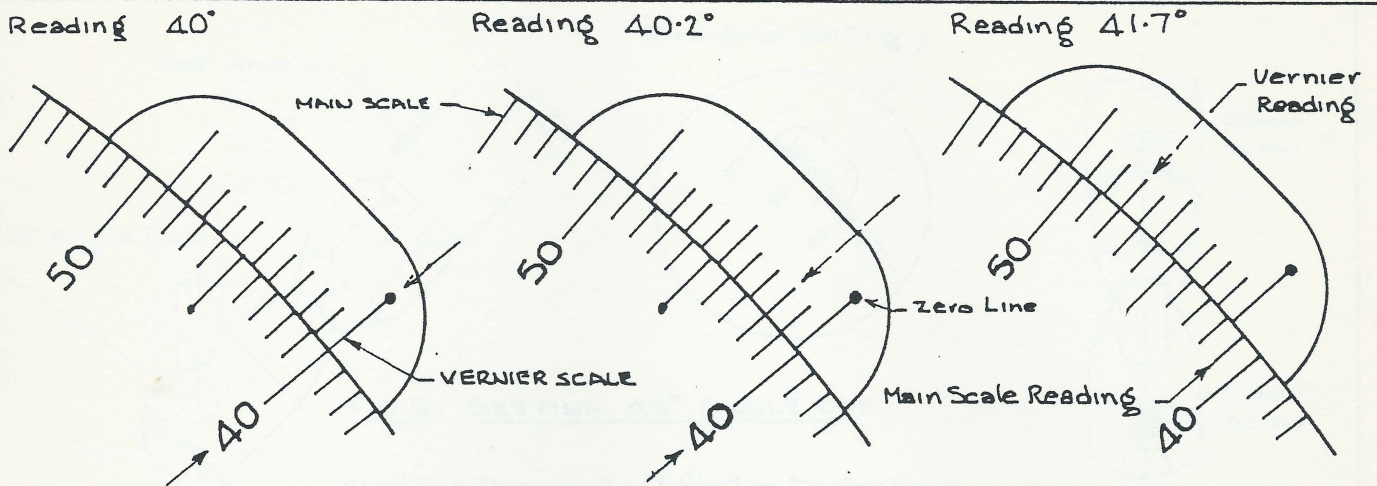

FIG. 1. SETTING THE VERNIER
- (11) MICRO ANGLE ADJUSTMENT. The Knob is scribed with a zero line. There is adjustment either way of this line. Turning the Knob away from you raises the Dop Arm and increases the angle. Turning it towards you lowers the Arm and decreases the angle.
- (12) THE VERNIER SCALE. The Vernier Scale reads directly to  $.1^{\circ}$ . The whole angle is read off the main scale and the decimal fraction off the Vernier scale. The Protractor scale is adjusted to align the whole number of the angle with the zero (•) on the vernier scale. The Protractor is then advanced until the decimal line of the required fraction lines up with the next main scale division. Use the Micro-adjustment screw for this. This is illustrated in Fig. 1.
- (13) ANGLE STOP. The Angle Stop Pin is carried on the Spring loaded plate on the front of the Head. The Micro-angle adjustment is the adjustable stop pin. These stop pins operate the angle stop indicator light, when the light is fitted.
- (14) POSITIONING THE HEAD. Set the Angle as described in(10). Unclamp the swinging arm that carries the Post. Place the left hand under the head to support its weight and loosen the vertical slide clamp wheel. With the Dop Arm down and Stop Pins in contact raise or lower the head, and swing it to or away to position the stone over the lap plate. Clamp the slide, then clamp the Post.
- (15) INDEX WHEEL. A 96 tooth Index Wheel is fitted as standard. 80,72 and 64 tooth wheels are also available. Index Wheels are secured by two screws and located with a dowel pin.
- (16) CHANGING INDEX WHEELS. First disengage the Index Pawl. Remove the two securing screws. With thumbs on the end of the Dop arm and forefingers behind the wheel, work it off the Hub and locating pin. When replacing a wheel, line up the locating pin and hole and work the wheel into place. Replace the screws.
- (17) SETTING INDEX AT ZERO. Always start cutting with the Index Wheel correctly at zero. Set the Index pin in the 96 position and the index micro adjustment knob set at zero. It is possible to set this at several zero positions, but the correct one is as set with the 'D' Dop.(See 27).
- (18) INDEXING. When indexing, depress the pawl sufficiently to lift the Index pin clear of the teeth in the wheel. Do not slide the pin over the teeth. The tooth selected rotates directly with the facet being cut. If when the pawl is depressed or released, the index pawl spindle turns, moving it from the zero setting, then it has to be retensioned.